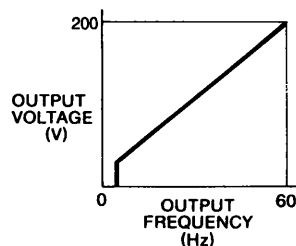
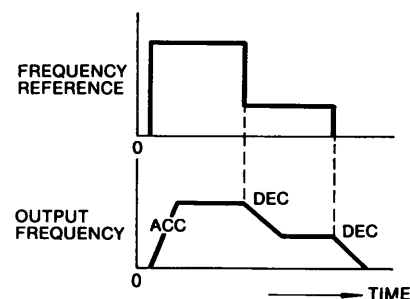

Fig. 3 Example of V/f Pattern
Fig. 4 Accel/Decel Time Setting
<p>Fig. 1 VS-616HII Functional Block Diagram 6</p> <p>Fig. 2 Major Control Component Layout VS-616HII Model CIMR-H300B 7</p> <p>Fig. 3 Example of V/f Pattern 8</p> <p>Fig. 4 Accel/Decel Time Setting 8</p> <p>Fig. 5 VS-616HII Clearance Requirements for Proper Cooling and Maintenance 10</p> <p>Fig. 6 Example of VS-616HII Interconnections 11</p> <p>Fig. 7 Shielded Lead Termination 13</p> <p>Fig. 8 Grounding of Three VS-616HII Units 14</p> <p>Fig. 9 Connections for Megger Testing 14</p> <p>Fig. 10 Accel/Decel Time Set by Notch ① of 2S 18</p> <p>Fig. 11 ON/OFF Switches of 6S (1 to 8) 20</p> <p>Fig. 12 Master Frequency Reference Signal Selection 21</p> <p>Fig. 13 Auxiliary Frequency Reference Signal Selection 21</p> <p>Fig. 14 Voltage Selector 21</p> <p>Fig. 15 Radio Noise Reducing Filter Circuit Selector 21</p> <p>Fig. 16 Run and Stop Time Chart 21</p> <p>Fig. 17 Analog Operator (Optional) 22</p> <p>Fig. 18 Digital Operator (Optional) 23</p> <p>Fig. 19 VS Operator (Optional) 24</p> <p>Fig. 20 Points for Measurement 29</p>	<p>Fig. 21 Output Voltage Measurement 29</p> <p>Fig. 22 Model CIMR-H160B 38</p> <p>Fig. 23 With Analog Operator 39</p> <p>Fig. 24 With Digital Operator 39</p> <p>Fig. 25 With VS Operator 40</p> <p>Fig. 26 With User-Arranged Operation Circuit 41</p> <p>Fig. 27 With Magnetic Contactor for Start/Stop Operation (a) 42</p> <p>Fig. 28 With Magnetic Contactor for Start/Stop Operation (b) 43</p> <p>Fig. 29 With VS Operator and Analog Operator 44</p> <p>Fig. 30 With VS Operator and Digital Operator 45</p> <p>Fig. 31 With Braking Unit and Braking Resistor Unit 46</p> <p>Fig. 32 With Transistor (Open Collector) Used as Operation Command Signal 47</p> <p>Fig. 33 Control PC Board 51</p> <p>Fig. 34 Base Drive PC Board 51</p> <p>Fig. 35 Removing Diode Power Module and Diode 52</p> <p>Fig. 36 Removing Transistor Power Module and Transistor Module 53</p> <p>Fig. 37 Main Circuit Fuse 54</p> <p>Fig. 38 Cooling Fan Assembly 54</p>
- (1) Base drive circuit: Drives the transistors in the inverter circuit.
- (2) Sine wave PWM control circuit: Calculates the pulse width every time a reference signal is received from the V/f control circuit, and outputs a PWM signal approximating a sine wave.
- (3) V/f selector circuit: Selects V/f pattern from 15 types of built-in voltage/frequency (V/f) patterns (Fig. 3).
- (4) Acceleration and deceleration time setting circuit: Smoothly changes the output frequency upon a rapid change of the frequency reference signal. Acceleration and deceleration times can be independently set by the acceleration (ACC) and deceleration (DEC) time setting potentiometers (Fig. 4).
- (5) Stall prevention circuit
- (6) Operation mode selector circuit: Selects one of eight operation modes individually to tailor the inverter to a specific application.
- (7) Sequence mode selector circuit: Selects the optimum function according to the application from ten modes.